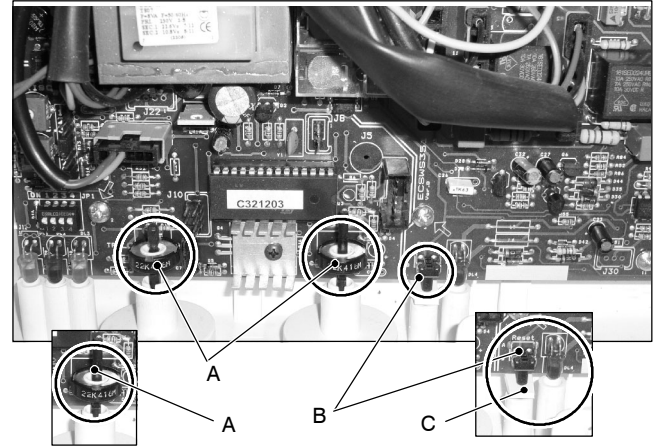

Fig. 38
- 8 Insert the spindles in the control panel knobs until the notch A (Fig. 38) reaches the potentiometer edge. It is not necessary to force them in the knob.
- 9 While tightening the screws that fix the Electronic starting control p.c.b. on the control panel, keep the p.c.b. towards the control panel fascia making sure of the contact between the boiler reset button B and the tab C (Fig. 38).